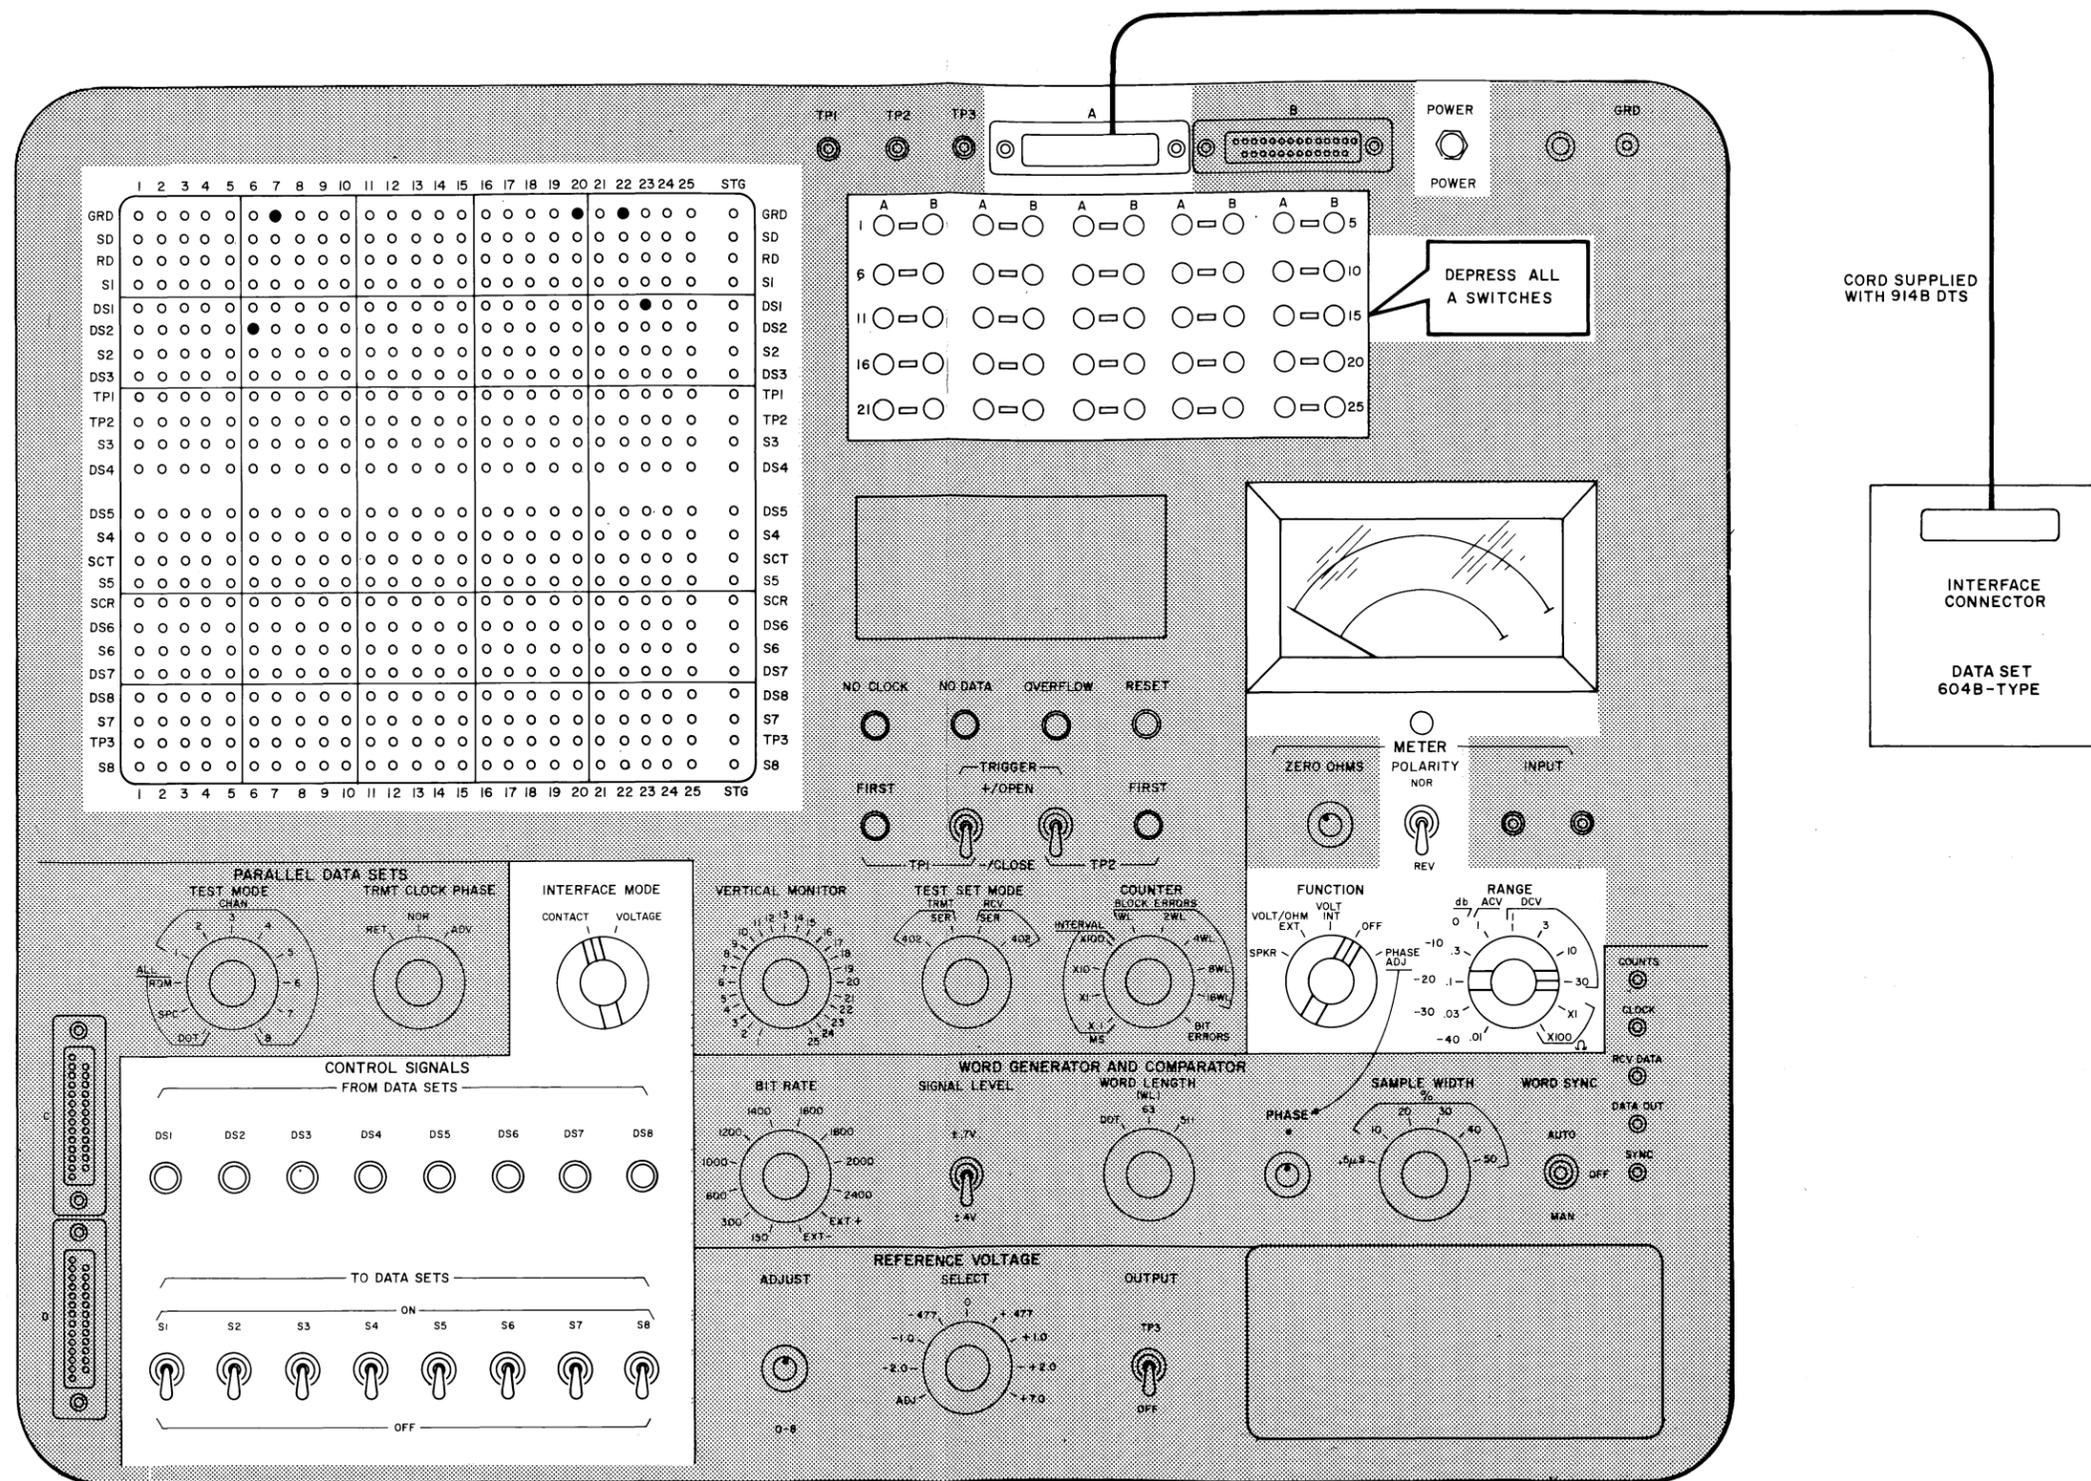

Fig. 6—Test Connection Diagram
The 914B DTS should be connected as shown in Fig. 6.
**3.04** The 914B DTS switches not shown in Fig. 6 or not mentioned in text are not required for the test.
1	Connect the equipment as shown in the test connection diagram (Fig. 6).